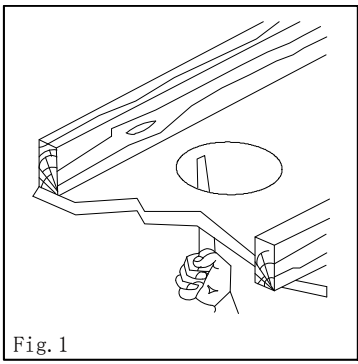

Fig. 1
1. Cut a diameter $\varnothing 205\sim 210$ mm hole in the ceiling. (Fig.1)